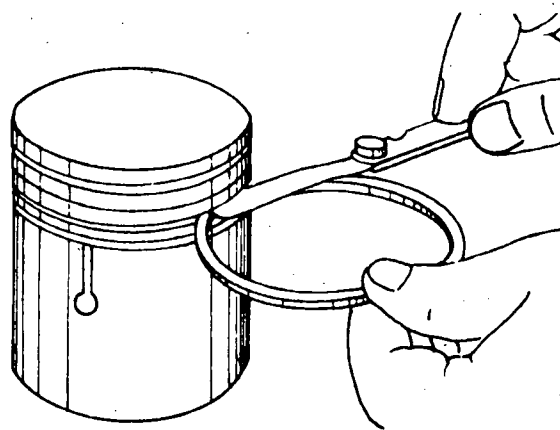

Fig. 6
- a) Check the tolerance of the rings in the grooves of the piston, by using a thickness gauge (fig. 6).